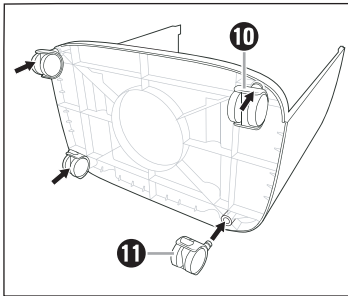

Fig. 1
- ◆ Fit the plain castors **10** on the front and the castors with locking levers **11** on the rear of the base **15**. Press the castors into the holes on the appliance base **15** until you hear them click into place (see fig. 1).